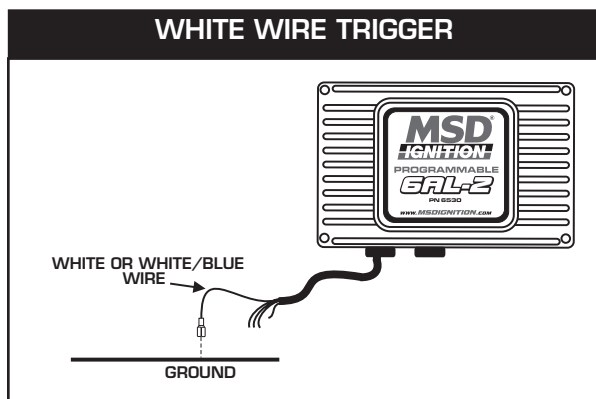

Figure 16 Checking for Spark with the White or White/Blue Wire.
5. Tap the White or White/Blue wire to ground quickly several times (Figure 16). Each time you pull the wire from ground, a spark should jump from the coil wire to ground. If spark is present, the ignition is working properly. If there is no spark skip to step 6: